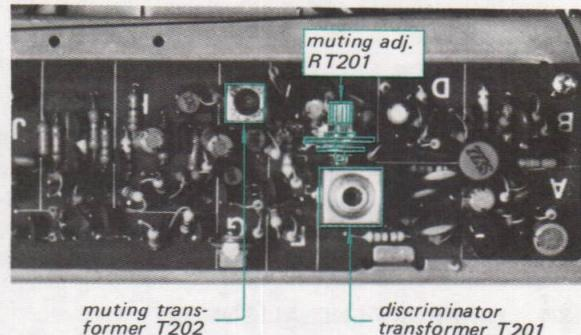

Fig. 3-4. Adjusting parts location
3. Turn the top core (secondary side) of discriminator transformer T201 (see Fig. 3-4.) with a hex-head alignment tool to obtain a null-point reading on the tuning meter.
2. Turn the knob of RT201 (see Fig. 3-4) fully clockwise on the fm i-f amplifier board.